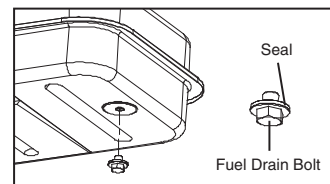

Figure 10. Fuel Drain Bolt
(For KFA135DGDR/180DGDR/220DGDR Models Only. See Figure 10)
5. Reinstall fuel drain bolt to Fuel tank and tighten firmly using 3/4” socket or adjustable wrench.(For KFA135DGDR/180DGDR/220DGDR Models Only. See Figure 10)